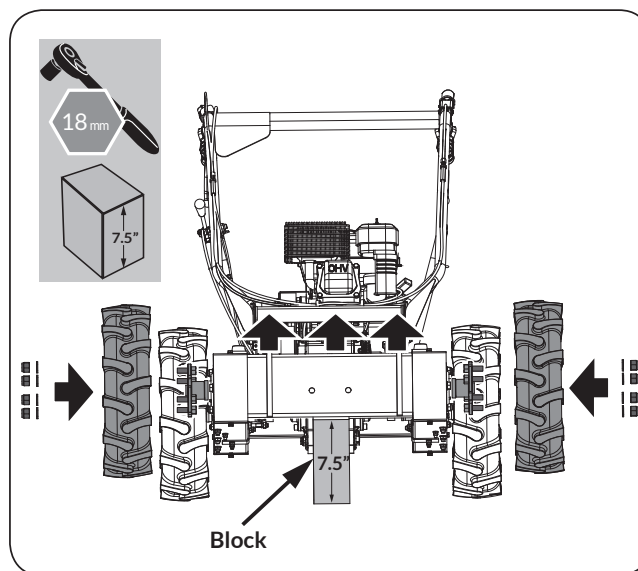

Figure 3b
8. With all 4 tires on the ground tighten the bolts, in a star pattern for even torque. (See **Figure 3b**)